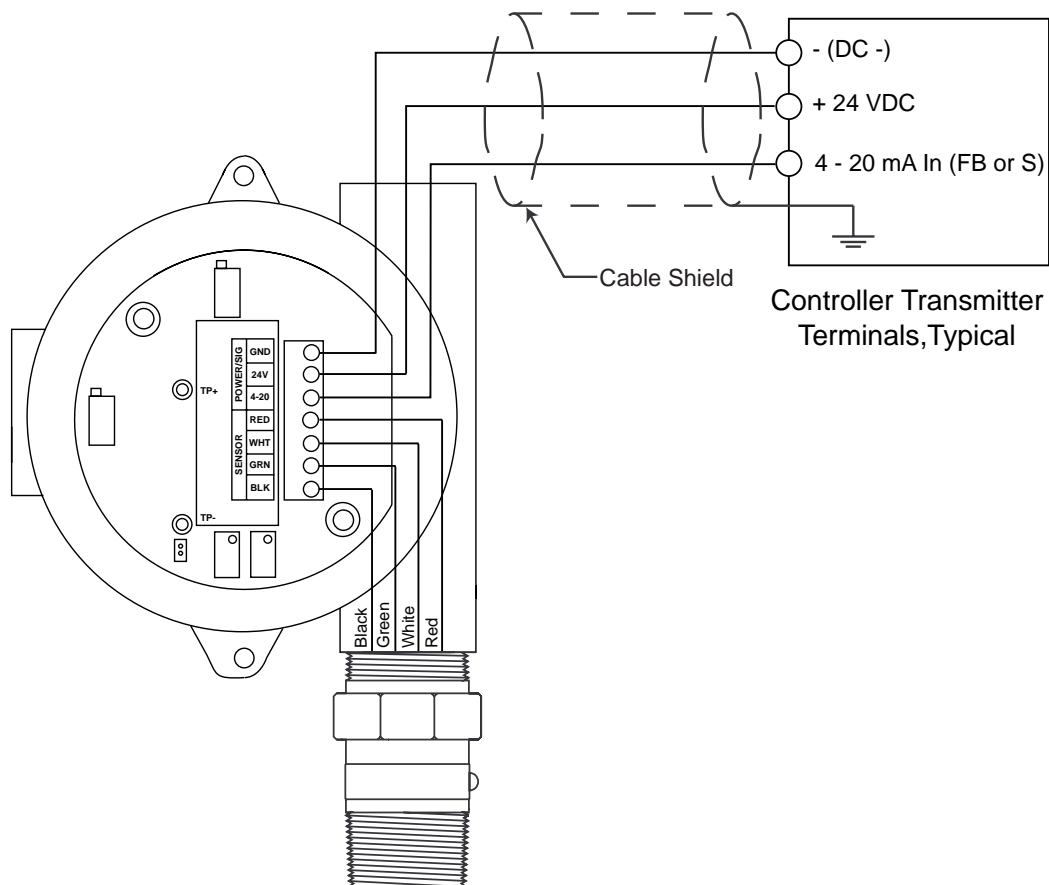

Figure 3: Wiring the CO2 Transmitter to a Controller
4. Verify that the detector leads are wired to the amplifier's interconnect terminal strip. If necessary, connect the detector leads to the interconnect terminal strip as shown in Figure 3.
6. Connect the three wires to the interconnect terminal strip as follows (see Figure 3).
- Connect the feedback wire to the **4-20 (FB)** terminal.
9. Connect the wires to the applicable transmitter terminal strip at the controller as shown in Figure 3 below.
7. Connect the detector leads to the interconnect terminal strip as shown in Table 4 below and Figure 3 on page 6 of this manual.